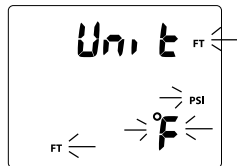

Fig. 33A - SET UNITS
**SET UNITS**, information includes (Fig. 33A/B):